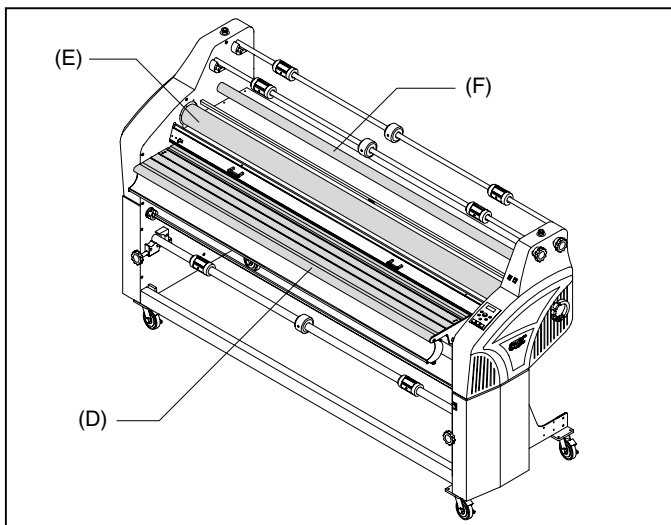

Fig. 15
**D. FEED TABLE:** (Figure 15) The Feed Table is used to position items for lamination. **The laminator will operate only when the Feed Table and Feed Table Latch are properly installed.**
**E. MAIN ROLLERS:** (Figure 15) Silicone rubber coated steel tubes compress the film to the items being laminated. The upper main roller can be heated. Heat is provided by an internal heating element. The main rollers are motor driven for ease of loading new film.
**F. IDLER BAR:** (Figure 15) The idler bars, located near each heat roller, are used to direct the film to the heat roller nip.